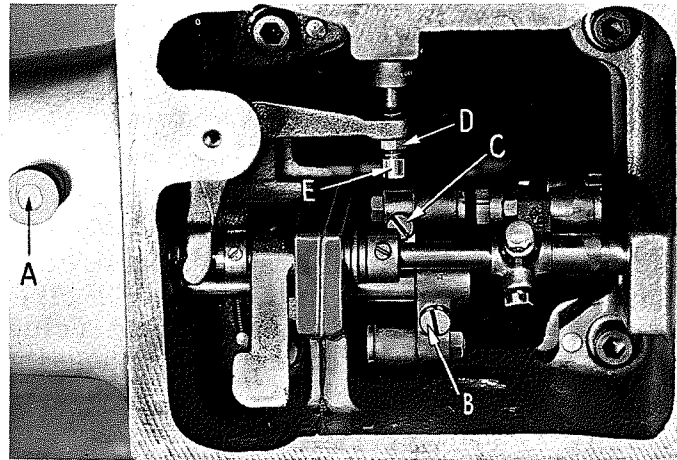
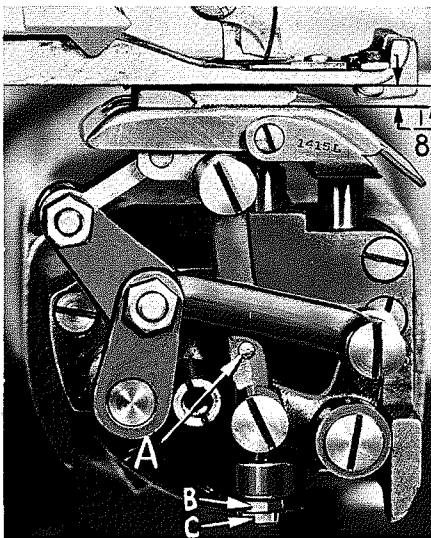
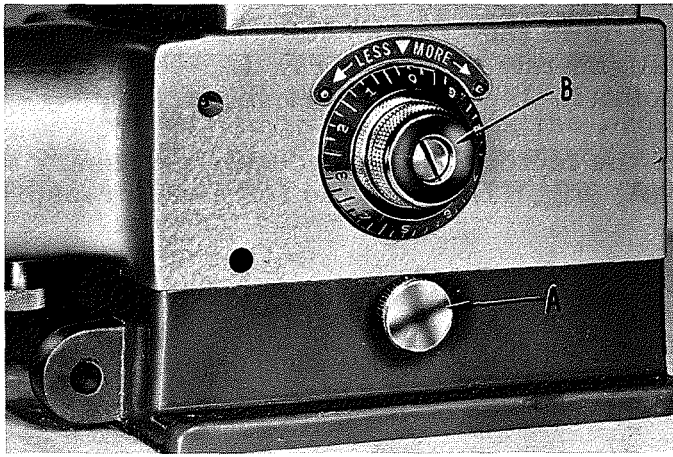
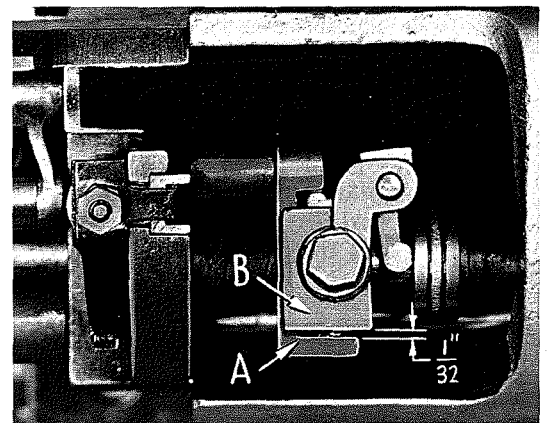

Fig. 11
Fig. 12
Fig. 13
Fig. 14
The feed plate pressure is adjusted at the factory. If it becomes necessary to change the pressure, turn knurled screw (A, Fig. 11) clockwise for more pressure and counterclockwise for less.
Turn the handwheel in operating direction until the feed point reaches its highest position and the feed plate reaches its lowest position. At this point, there should be 1/8 inch space between the top of the feed plate and the bottom of the presser foot (Fig. 12). To obtain this adjustment, loosen the machine base locking screw (A, Fig. 13) and lay the machine on its back. Then, loosen screw (B, Fig. 11) and hold link (A, Fig. 12) so that the feed point is pressed up against the bottom of the presser foot. Turn the handwheel in operating direction until the feed point reaches its most forward position, and retighten screw (B, Fig. 11).
Turn the handwheel in operating direction until the feed point first touches the presser foot. At this point, the front edge of the feed point should be aligned with the front edge of the knurling on the feed plate. To make this adjustment, loosen screw (C, Fig. 11), and by means of link (A, Fig. 12), move the feed point forward or backward as required. Retighten screw (C, Fig. 11). If, in this adjustment, the feed point has to be moved an appreciable distance, repeat the adjustment "Setting The Feed Point Height" in the previous instructions.
The height of the plunger is adjusted by turning the knob (B, Fig. 13) clockwise to raise the plunger and counterclockwise to lower it. To provide for the maximum plunger adjustment, there should be 1/32 inch clearance between plunger crank (A, Fig. 14) and the plunger block (B) when the adjusting knob (B, Fig. 13)
is turned clockwise as far as it will go. Note that there are pins which stop the knob (B) after each complete revolution. The knob may be pulled out toward the operator to lift it over the stop. The knob can make three complete revolutions. To make the 1/32 inch adjustment, turn the knob clockwise as far as it will go. Loosen locknut (D, Fig. 11) and turn screw (E) in the required direction. Retighten nut (D). Setting is correct when the needle, on its stroke, to the right, just clears
the top of the plunger, with the adjusting knob in the maximum clockwise position. If after initial setting, further adjustment of height is necessary, it can be accomplished by turning nut (B, Fig. 12) and locknut (C) up or down as required. Check the adjustment so that the needle does not strike the plunger.